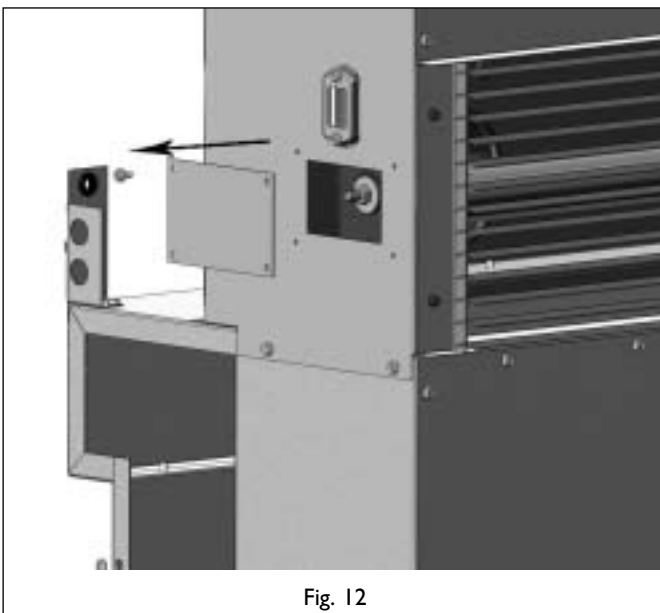

Fig. 12
- Remove the cover plate to the left on the convection housing; see fig. 12;